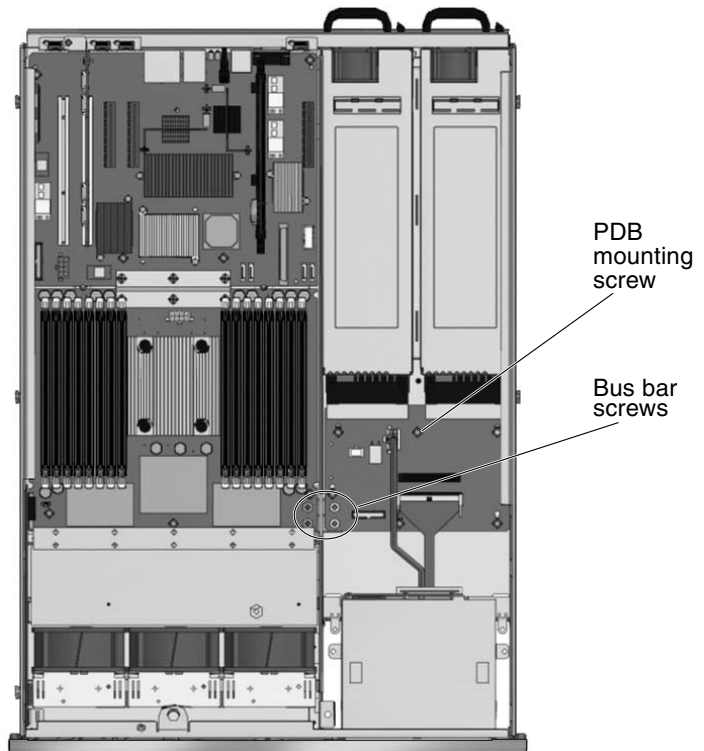

FIGURE 5-18 Location of Bus Bar Screws on the Power Distribution Board and the Motherboard Assembly
4. Remove the two screws that secure the power distribution board to the bus bar (FIGURE 5-18).